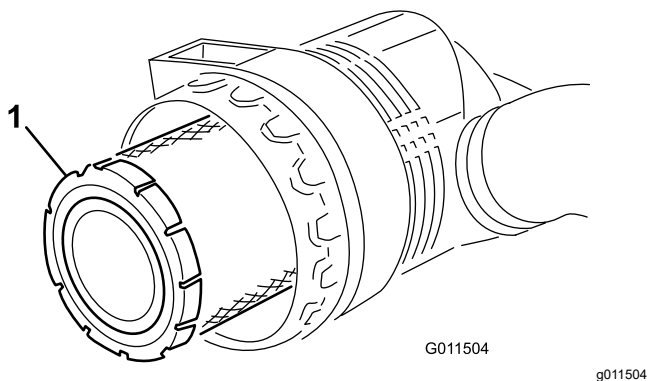

Figure 53
5. Remove and replace the primary filter (Figure 53).